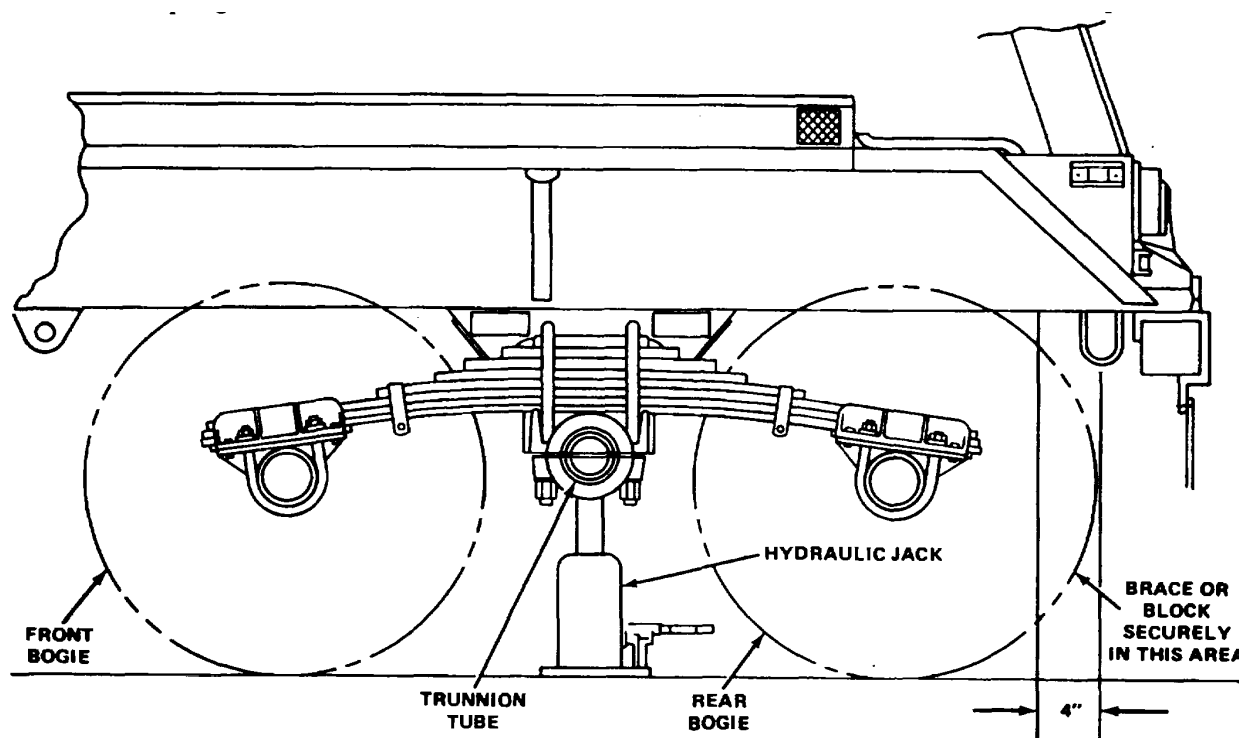

Figure 5-4. Suspension Assembly
a. Removal, Fig. 5-4.
(1) Position semitrailer on hard level surface with front resting on landing gear.
(3) Loosen wheel lug nuts while wheels are on ground.
(4) Jack up rear of semitrailer and support under frame securely until weight of semitrailer is removed from springs and axles.
(5) Remove wheels from both axles, para 4-51.
(6) Remove both axles, para 5-9.
(7) Position a jack under the trunnion tube close to the inside of each trunnion hanger.
(8) Raise jacks just enough to support trunnion tube.
(9) Remove four nuts, four washers, and four bolts which fasten the trunnion hanger to the mounting bracket. Repeat for opposite side.
(10) Slowly lower suspension and support trunnion tube.
b. Disassembly, Fig. 5-4.
(1) Use lifting device to support spring.
(2) Remove four nuts and four washers from U-bolts.
(3) Remove two U-bolts and wear plate.
(4) Using lifting device, lift spring from upper trunnion hub and remove it from the suspension.
(3) Loosen wheel nuts while wheels are on ground.
(4) Position jacks just inboard of the spring end up on axle. Jack up axle to be removed until wheels clear the ground.
(5) Remove wheels, para 4-51.
(6) Raise rear of semitrailer with an overhead crane or A-frame support until weight of springs has been removed from axle. Block frame securely, fig. 5-4.
(7) Remove brake air chambers, para 4-42.
(8) Remove four nuts, four washers, and four bolts which fasten the spring end cap to spring seat on axle.
(9) Remove four nuts, four washers, and two U-bolts which fasten the spring seat on axle to the spring end cap.
(10) Remove leaf spring seats.
(11) Remove cushioning pads.
(12) Remove adjustment plates.
(13) Repeat steps (8) through (12) for other side.
(14) Slowly lower axle.
(1) Position semitrailer on hard, level surface with front resting on landing gear.
(2) Jack up rear of semitrailer and support under frame securely until weight of semitrailer is removed from springs and axles, fig. 5-4.
(4) Tag and disconnect eight hoses from brake air chambers on both axles. Manually release the failsafe springs, para NO TAG